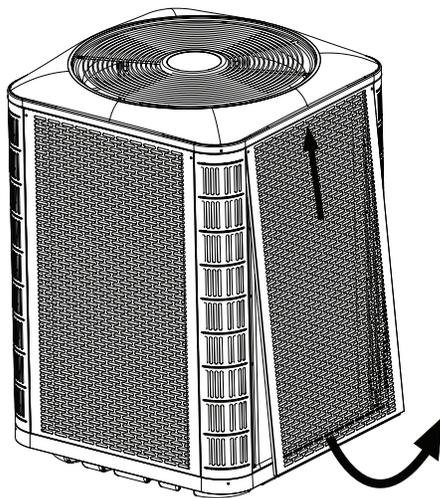
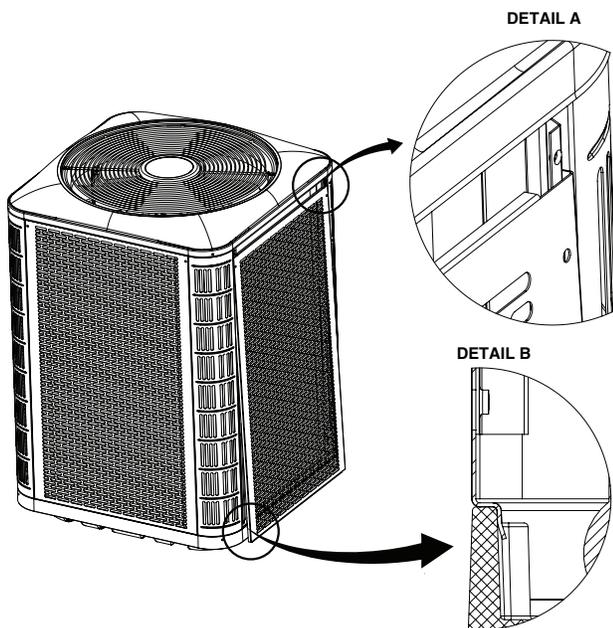

Figure 5. Panel Removal
Figure 6. Panel Installation
- To access the outdoor coil on units equipped with louvered panels, refer to Figure 5, \(page 10\) for panel removal and Figure 6, \(page 10\) for panel installation.
- Slide the panel up towards the top pan in order to clear the bottom flange from the base pan. See Figure 5.
- Insert the top corners of side panel flanges into the corner post channels as shown in Detail A in Figure 6.